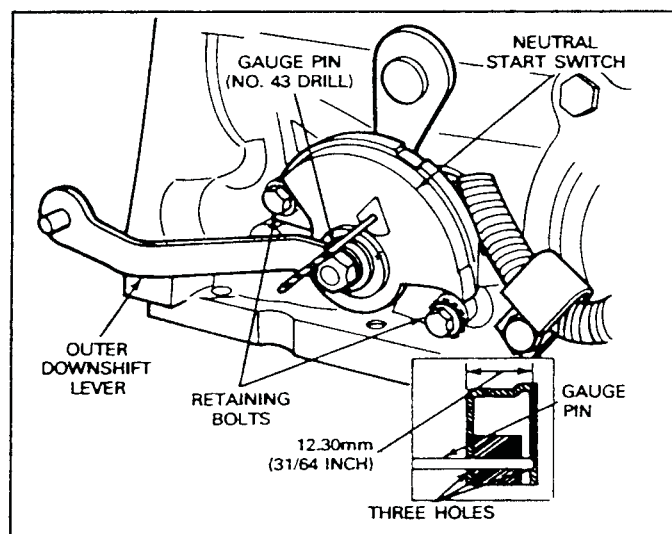

FIG. 8 Neutral Start Switch—C6
2. With the automatic transmission linkage properly adjusted, loosen the two switch attaching bolts (Fig. 8).
3. Place the transmission selector lever in neutral. Rotate the switch and insert the gauge pin (No. 43 drill shank end) into the gauge pin holes of the switch. The gauge pin has to be inserted a full 12.303mm (31/64 inch) into the three holes of the switch (Fig. 8).
3. Remove the two neutral start switch retaining bolts (Fig. 8).
2. With the transmission manual lever in neutral, check the location of the switch with the gauge pin. Install gauge pin (No. 43 drill) into the three gauge pin holes (Fig. 8).